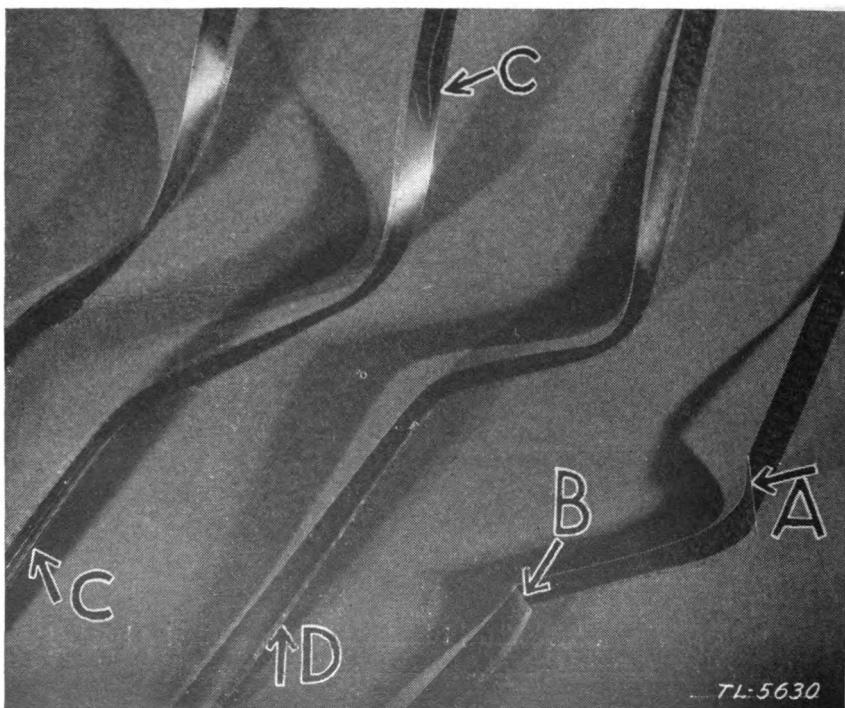

FIGURE 19.—Examples of film damage.
b. Film damage.—Film damage is caused by careless handling and careless projector operation. Figure 19 shows the four most common examples of film damage.
(1) Diagonal creasing *A* (fig. 19) is usually caused by film running over flange of feed sprocket, or by foreign material on sprocket shoe or guide roller.
(2) Horizontal creasing *B* is usually caused by stepping on film. Always be sure that film takes up properly during projection, so that it does not collect on the floor.
(3) Scratches on film *C* are usually caused by dirt in film gate or dragging pawl.
(4) Enlarged sprocket holes *D* are usually caused by dirty sprockets, lost loops, or excessive film gate tension.
(5) Sprocket holes on the sound track are made by incorrect threading or the use of sound film on a silent projector.